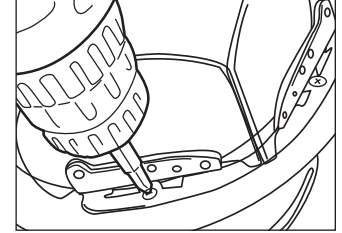

Figure 19
1. Remove the two screws and all hardware holding the Bourke eyeshield onto the helmet (Figure 19).